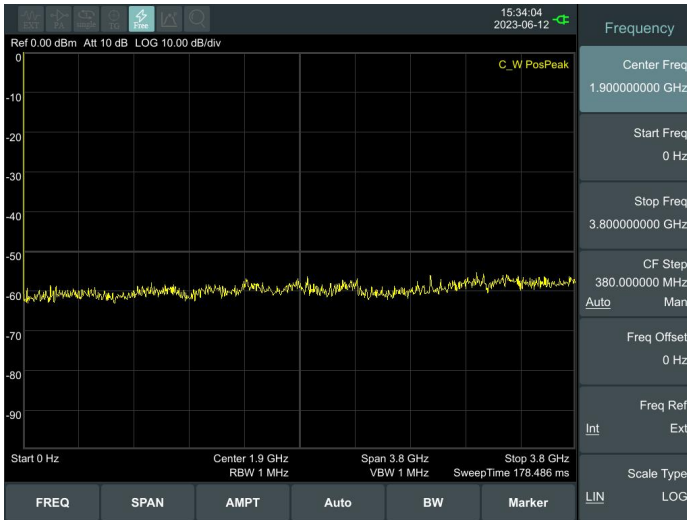

Figure 4- 10 Full Span
- 1) Press **【Preset】** on the front panel to restore the analyzer to its factory-defined state. The Spectrum analyzer will display the spectrum from 9kHz to the maximum span width. The signal generated will display as a vertical line at 100MHz. Refer to Figure 4- 10.